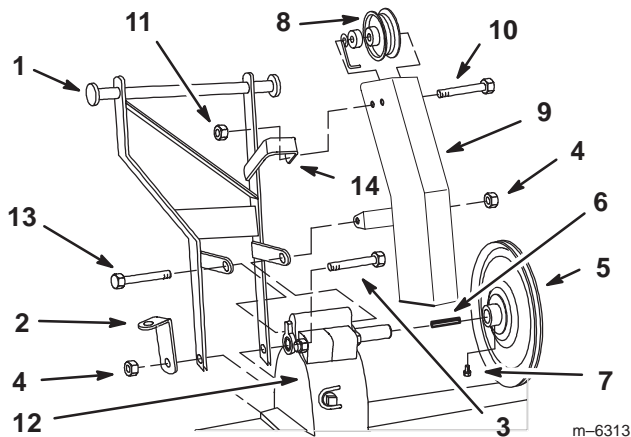

Figure 2
1. Tip tiller onto back and support in an upright position. Remove the 3/8 x 5-1/2 inch bolt and the 3/8 x 4-1/2 inch bolt from the tiller gear case (Fig. 2). Discard extra nuts used as spacers for shipping.
2. Fasten hitch and spring bracket to gear case with the bolt (3/8 x 5-1/2 inch) and nut (3/8 inch) shown in Figure 2.
Note: Make sure the 3/8 x 4-1/2 inch bolt is install as shown in Figure 2.
3. Install the bolt (3/8 x 4-1/2 inch) through the hitch and gear case shown in Figure 2. Do not install the nut (3/8 inch) at this time.
4. Install the drive pulley, so the hub is a 1/4 inch from the end of the drive shaft (Fig. 2). Secure pulley with a square key and 2 square head set screws (5/16 inch).
6. Assemble idler pulley and belt guide into lower hole of belt guard and install onto hitch through upper hole with a bolt (3/8 x 1-5/8 inch) and a lock nut (3/8 inch) (Fig. 2).